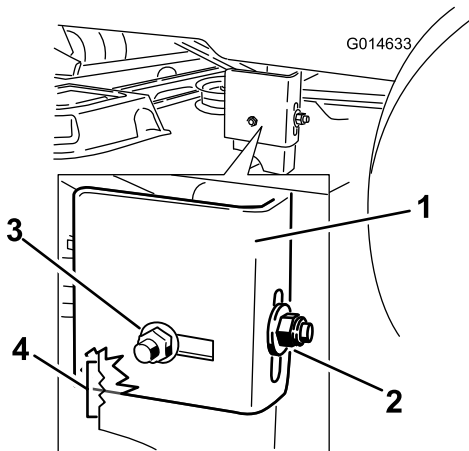
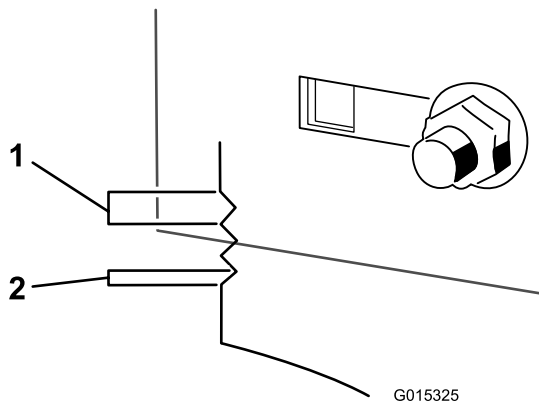

Figure 51
Figure 52
- Loosen the rear locking nut on the hanger bracket (Figure 51).
- Loosen the side locking nut on the hanger bracket just enough to allow the hanger to be adjusted (Figure 51). Use the notches on the welded bracket to measure the amount of adjustment. Each notch surface is equivalent to 0.25 inch, while a single side is 0.125 inch (Figure 52). Adjust the height of the mower deck to the desired height.
- Stop the deck at the adjusted position and tighten the side locking nut on the hanger bracket to hold the new position (Figure 51). Tighten the rear locking nut on the hanger bracket.